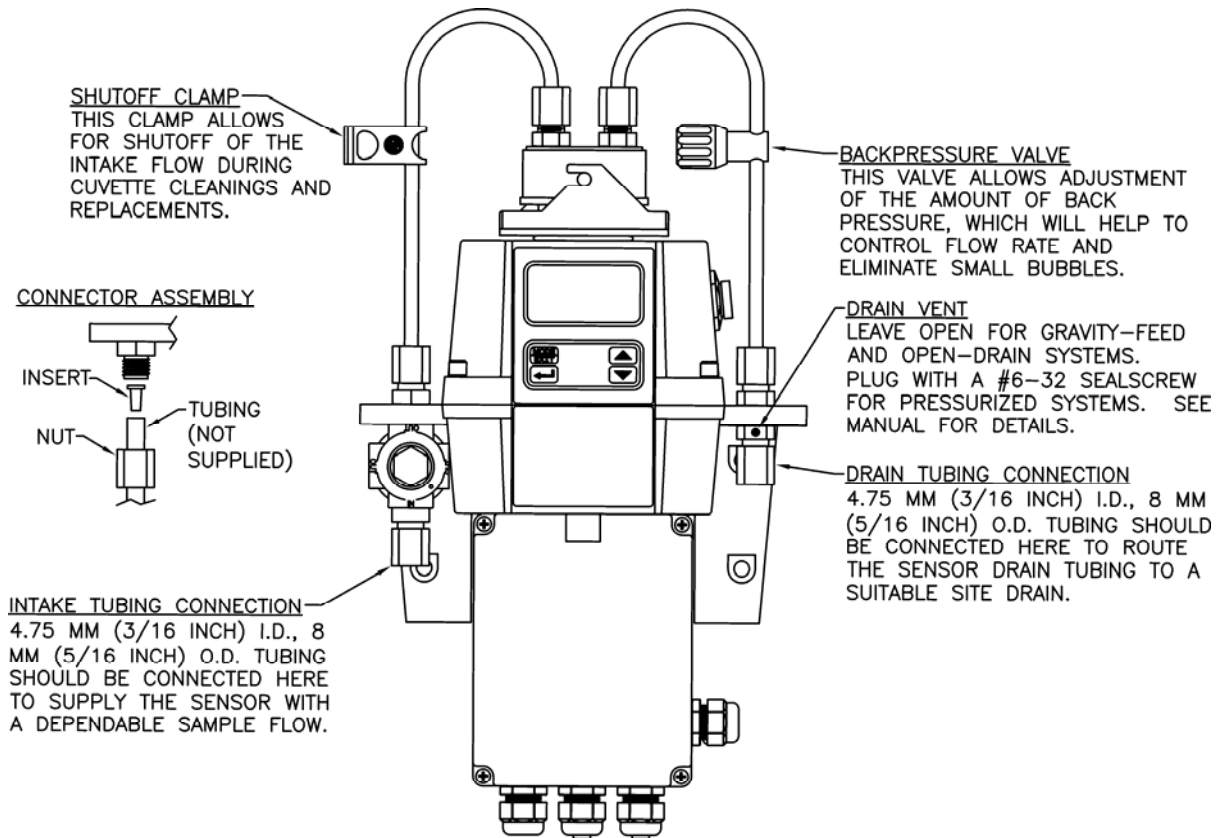

Figure 4: Recommended Plumbing for the Instrument
The recommended plumbing for the instrument is shown in Figure 4. The instrument is designed to require very little head pressure to operate; around 6.9kPa (1 PSI). The flow through cuvette is rated for a flow of 100ml/min. – 1 liter/min. (0.026-0.26Gal/min). The integral pressure regulator is rated for a maximum pressure of 1380 kPa (200 PSI.). The maximum allowable fluid temperature is 50°C (122°F).
In figure 4, there are two flow devices shown. The one on the input side is a shutoff clamp used during cuvette maintenance. The other device is a backpressure valve. Backpressure may be required to prevent air from coming out of solution, which may be observed as tiny air bubbles.
3.2.1 Drain Vent: The Micro TOL has been fitted with a drain vent in the “OUT” bulkhead fitting. This fitting allows for atmospheric equalization, thus helping to alleviate bubble formation in the cuvette. Refer to Figure 4.